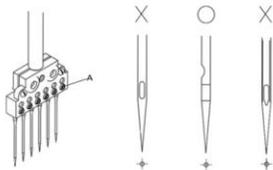

图8 (Fig.8)
- 1.拧下螺钉(A)并取下针。(图8)
- 1.Loosen screw (A) and take out the used needle.(Fig.8)
- 2.Put new needle into the holder holes as they can go and left the long groove of needle face you and Fasten Screw (A)